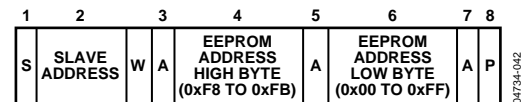

Figure 31. Setting an EEPROM Address
- To set up a 2-byte EEPROM address for a subsequent read, write, block read, block write, or page erase. In this case, the command byte is the high byte of the EEPROM address from 0xF8 to 0xFB. The only data byte is the low byte of the EEPROM address, as shown in Figure 31.